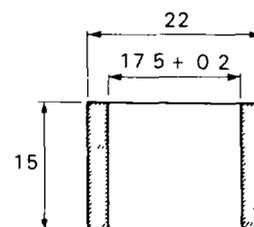

Figure 126 Locally Manufactured Assembly Aid Bushes
- (11) Insert the bearing bushes (4, 50) from the outside, sliding them over the swivel lever bearing spigots.
- (12) Use a vice and two assembly aid bushes (see Fig 126) to press the bushes in until the lock washer grooves are accessible; fit the lock washers (5, 48).